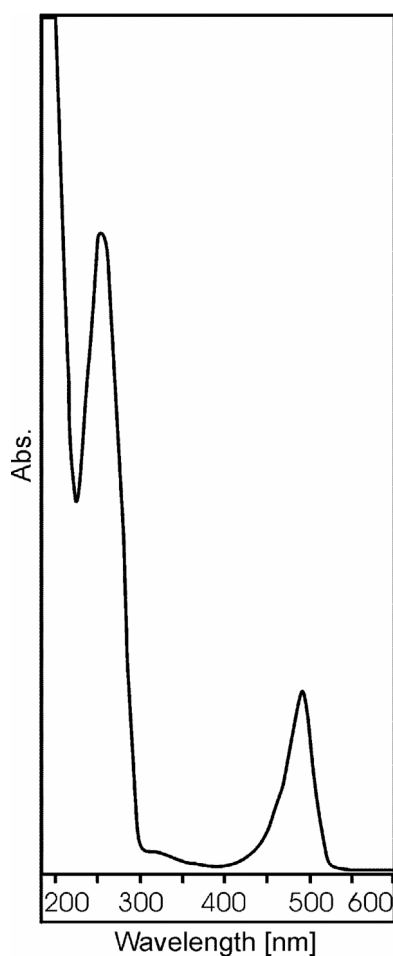

Fig. 2: UV/VIS absorption spectrum.
- 4 Run a UV/VIS absorption spectrum in the 200 – 600 nm range. The resulting spectrum should correspond to Figure 2.